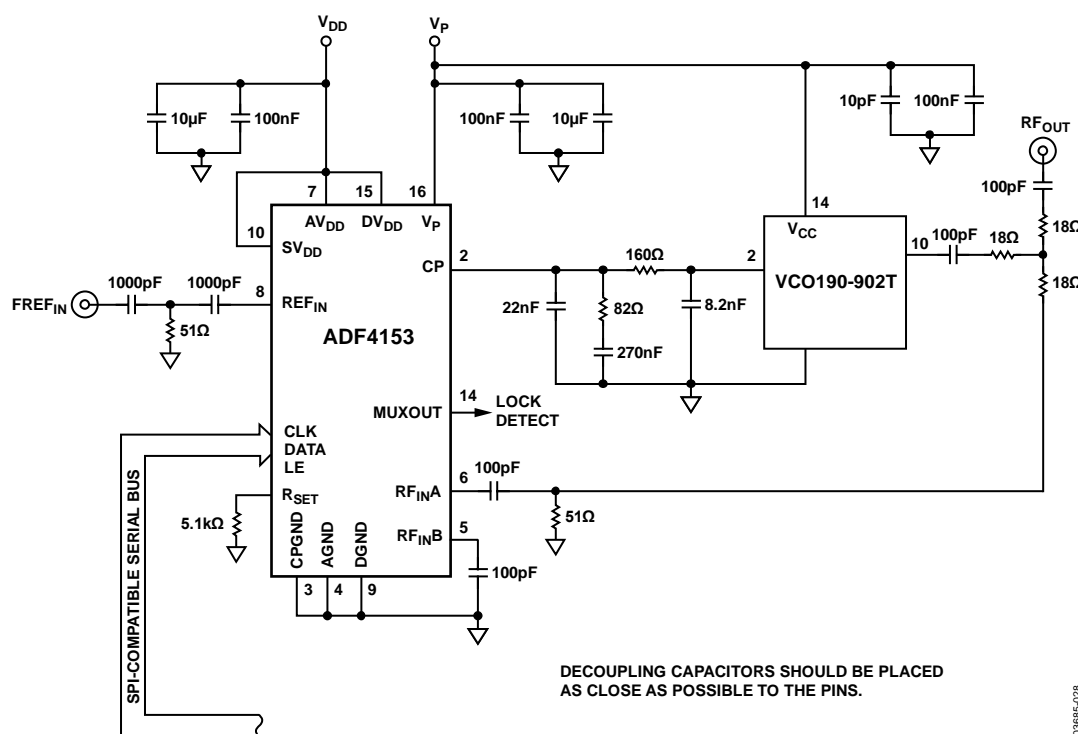

Figure 21. Local Oscillator for a GSM Base Station Transmitter
Figure 21 shows the ADF4153 being used with a VCO to produce the local oscillator (LO) for a GSM base station transmitter.